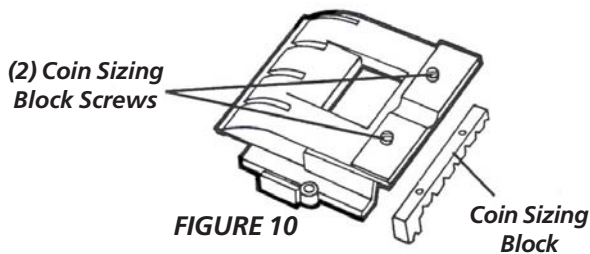

FIGURE 10
- Remove two screws that hold coin sizing block to upper coin chute cover cover (see FIGURE 10).